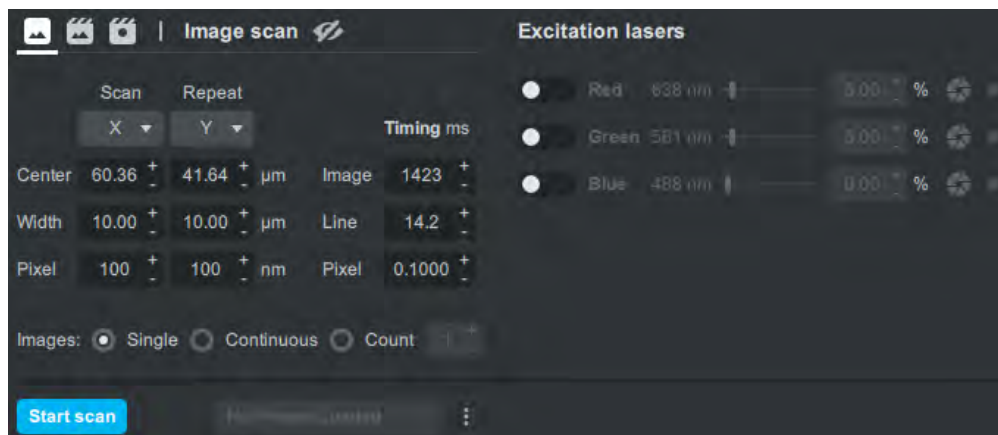

Figure 11.10.1: Figure: Image scan and fluorescence excitation laser settings panel.
- a. Navigate to the **Scan Settings** panel, which includes three tabs: **Image**, **Kymograph**, and **Point** (see Figure 11.10.1).